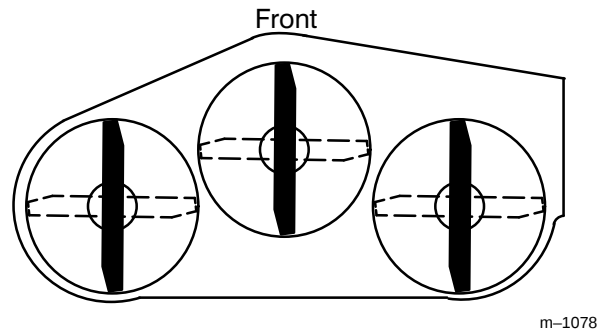
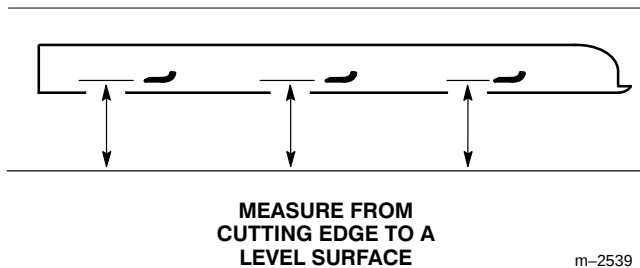

Figure 18
Figure 19
1. Rotate the blades until the ends face forward and backward (Fig. 18). Measure from a level surface to the cutting edge of the blades (Fig. 19). Note this dimension.